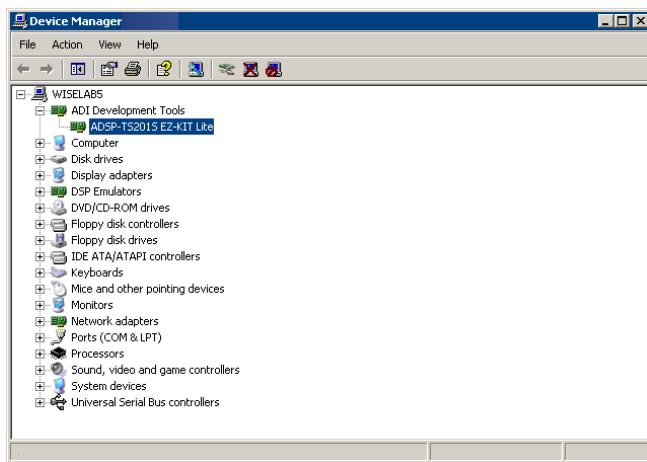

Figure 1-12. Device Manager Window
5. Verify that the USB driver software is installed properly. Open Windows Device Manager and verify that ADSP-TS201S EZ-KIT Lite shows under ADI Development Tools with no exclamation point, as in Figure 1-12.